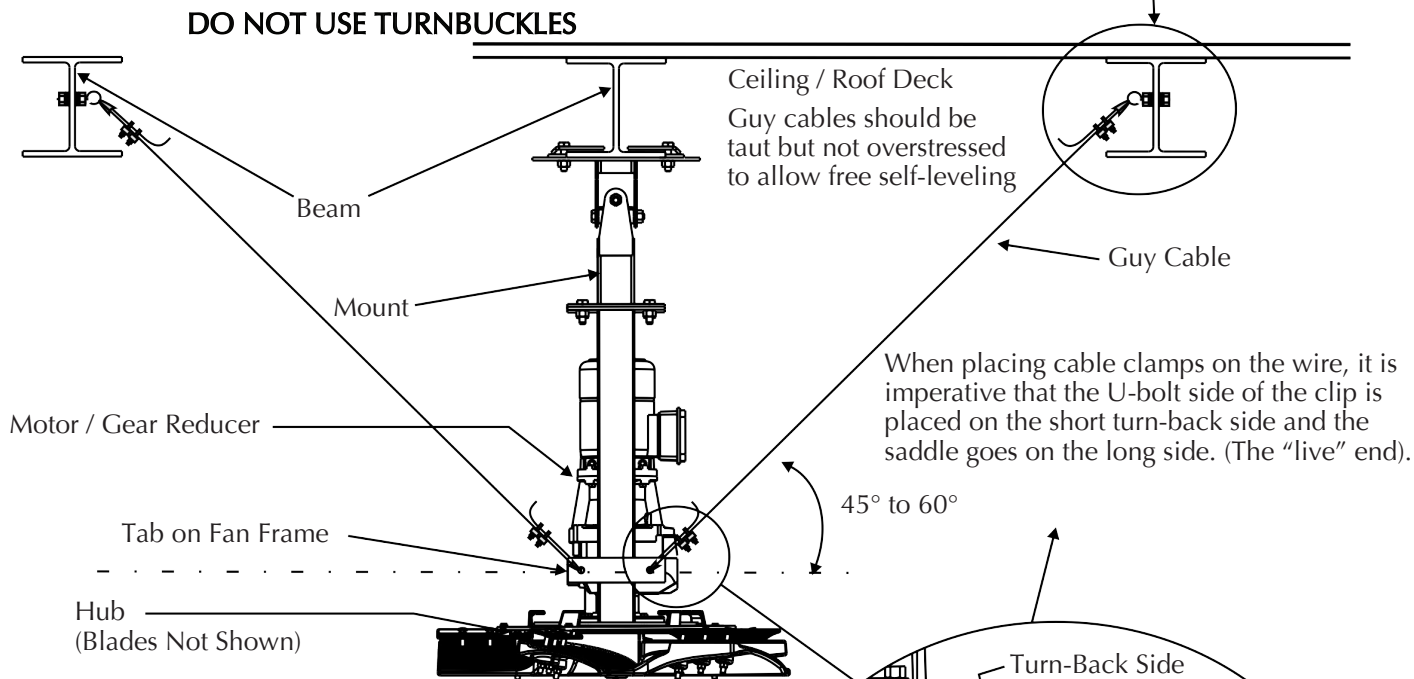
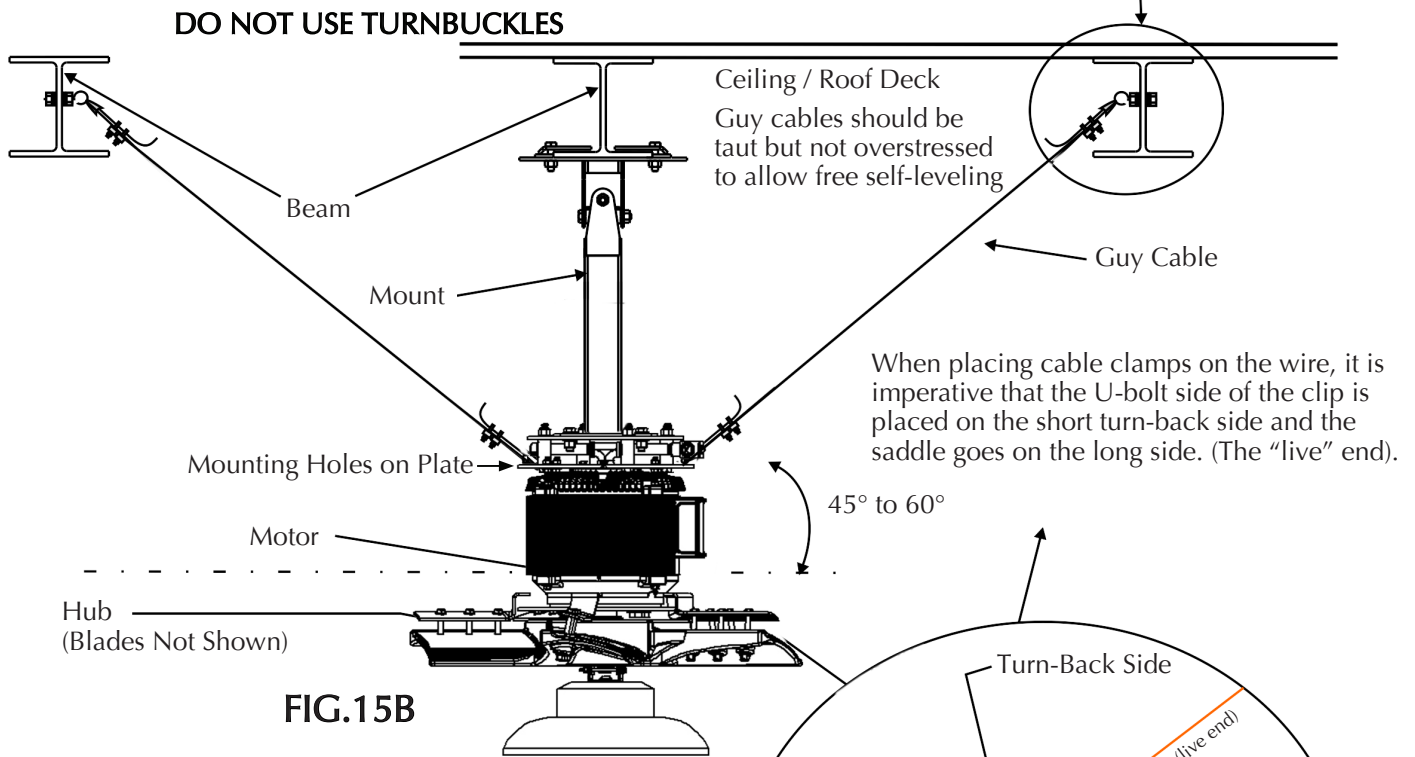
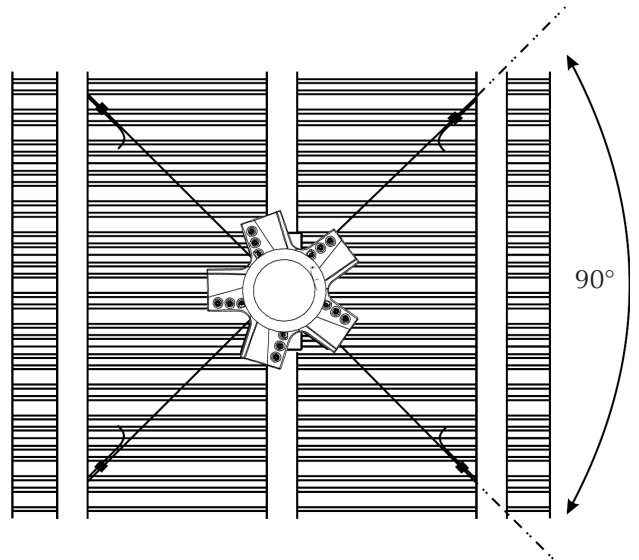

FIG.15
FIG.15B
FIG.17
**STRUCTURAL NOTE:** Guy cables must be installed or fastened to a structural component of the building at the angle shown in Fig.15 and Fig.17.
**STRUCTURAL NOTE:** Guy cables must be installed or fastened to a structural component of the building at the angle shown in Fig.15B and Fig.17.
2. Install eye bolt with nuts and washers in I-Beam as per Fig.15.
5. Guy wires should be taut but not over-stressed to allow free self-levelling. They should also be approximately  $90^{\circ}$  apart (Fig.17).